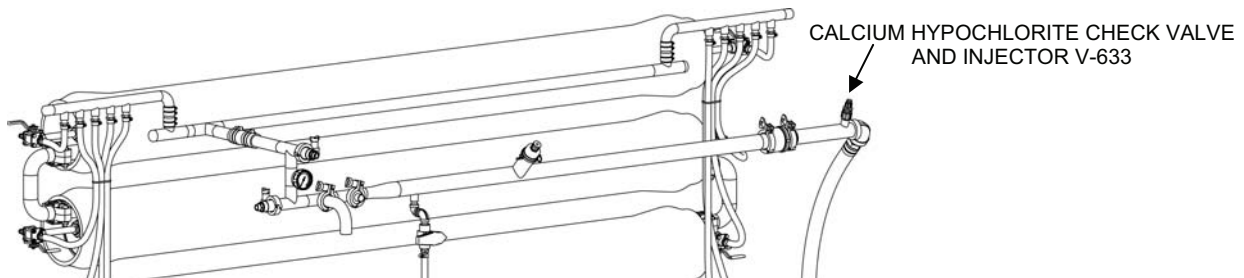

Figure 27. Calcium Hypochlorite Chemical Injection Point.
- Calcium hypochlorite is injected in the product water discharge line (see Figure 27).